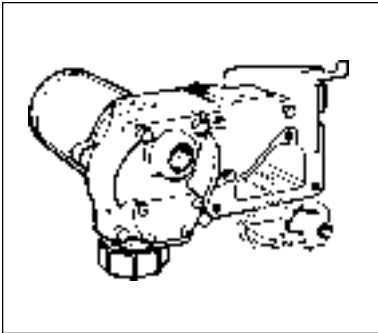

Figure 18
3. Remove switch bracket mounting screw and gently pull switch from switch cavity. (Figure 18)